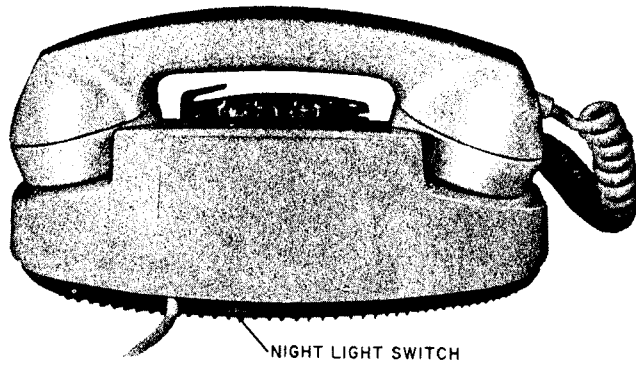

Fig. 2 — 700-Series Telephone Set, Rear View
2.01 These sets are equipped with a concealed lamp which illuminates the dial when the handset is removed. This lamp also serves as a night light under control of a slide switch located in the base at rear of set (Fig. 2).